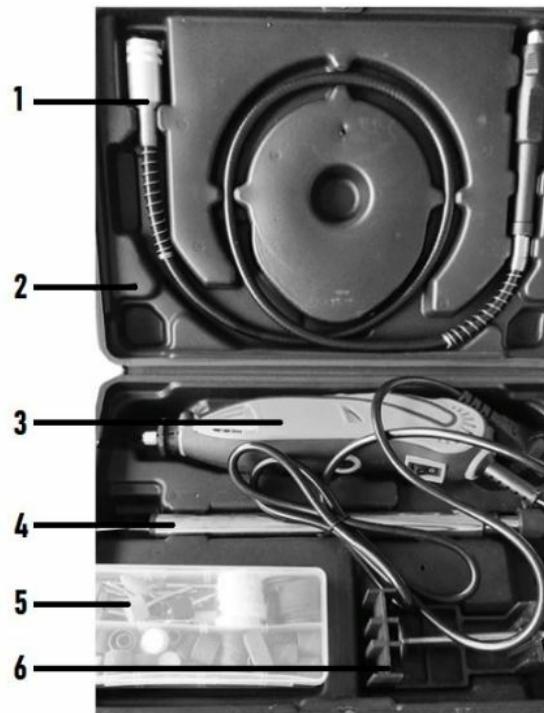

Рис. 2
The engraver with a set of accessories in a case is shown in Fig. 2.
- The single-phase double-insulated DC commutator motor installed in the engraver (class II machine according to GOST R IEC 60745-1-2011) provides maximum electrical safety during operation and does not require grounding. The engraver is designed for intermittent operation (S3) with a nominal period: work/break – 20 min / 5 min. The degree of protection provided by the shell is IP20 (IEC 60529). Torque from the engine armature is transmitted to the collet chuck (collet with clamping nut). The main working part of the engraver – various holders and bits are attached (see Fig. 2). On the body of the engraver, the arrow indicates the direction of rotation of the cartridge.
The engraver with a set of accessories in a case is shown in **Fig. 2**